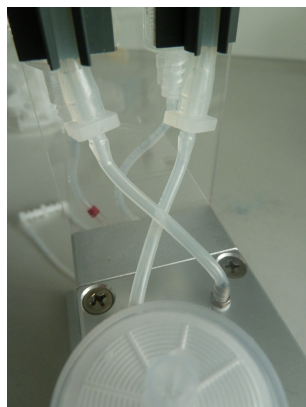

Figure 58 – Crossing the tubing above the valve block (valve 1).
9. Keep the tubing above the reservoirs crossed, and cross the tubing on the valve block (Figure 58).